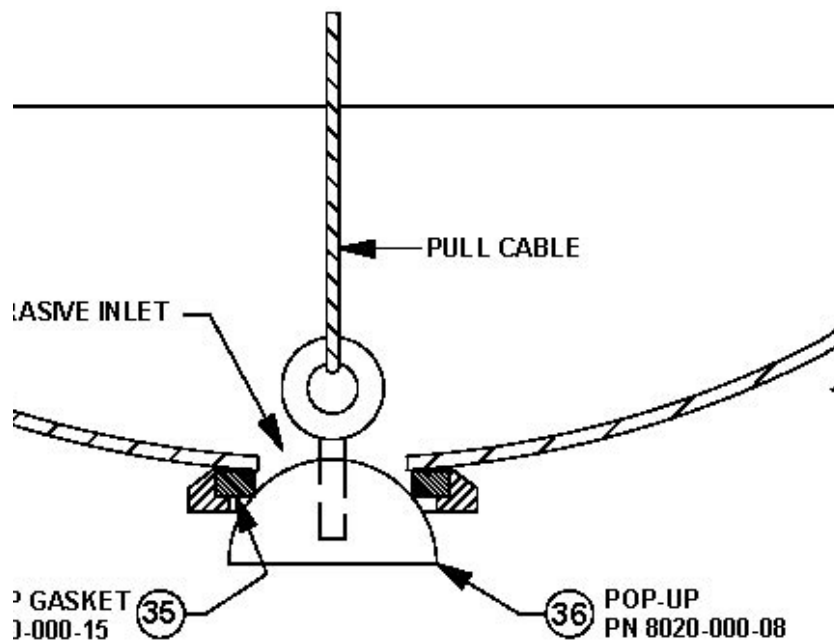

Figure 22
3. The interior condition of the abrasive blast vessel (#12) should be inspected quarterly. Pitting caused by corrosion will reduce the wall thickness of the vessel. If excessive corrosion is found, have the abrasive blast vessel inspected by a qualified facility. Check the pressure vessel internal piping for corrosion, cracks, and holes. See Figure 22.
- e. Check the popup gap (distance between the popup surface and the gasket). It should be between 0.625" and 0.840". See Figure 22. An excessive gap is created by a vertical nipple that is too short. An excessive gap will expose the top of the vertical nipple to abrasive when the popup closes which could result in premature wear to the popup.